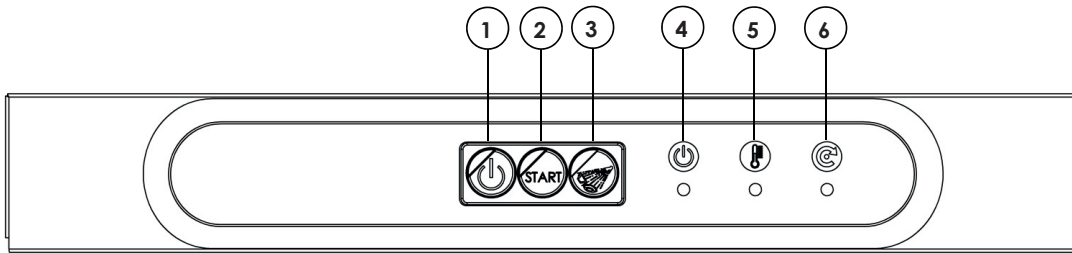
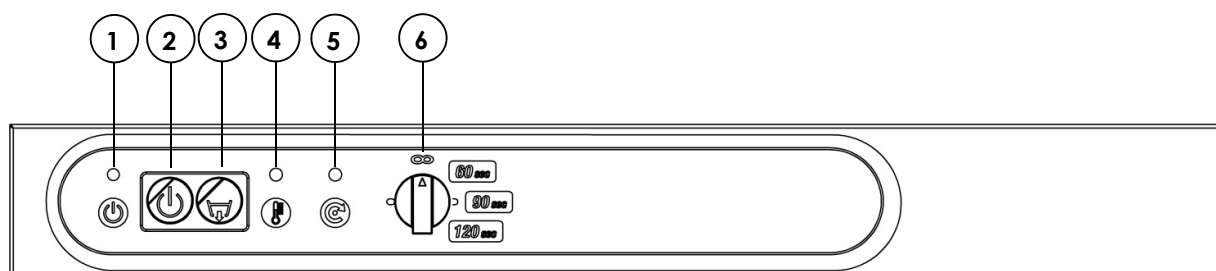

Fig. 14a
Fig. 14c
On fig. 14a, 14b, 14c you can see the control panel of the dishwasher and the reference to each control, according to the model of the dishwasher and the presence or absence of the drain pump.
Front loading dishwasher (ref. fig. 14a or 14b)	Dish washer with lid (ref. fig. 14c)
6. Washing	<p>Open the door, introduce the basket with the dishes (making sure the arrangement of the dishes respects the description contained in para. 3.4 – PART 2), close the door and press the CYCLE START KEY (2) to start the wash cycle: the CYCLE INSERTED LIGHT (6) comes on.</p> <p>The cycle ends when the CYCLE INSERTED LIGHT (6) turns off.</p>	<p>Raise the lid, insert the basket with dishes (making sure the arrangement of the dishes respects the description in para. 3.4 - SECOND PART), lower the lid and press the lid closure handle downwards: the CYCLE INSERTED LIGHT (5) comes on.</p> <p>downwards: the CYCLE INSERTED LIGHT (5) comes on.</p> <p>The washing/rinse cycle starts automatically.</p> <p>automatically.</p> <p>The cycle ends when the CYCLE INSERTED LIGHT (5) turns off.</p>
7. Supplementary rinse	<p>If the dishwasher is set up for manual rinsing activation (fig. 14a) and to perform a further rinse, press the MANUAL RINSING BUTTON (3): an additional 5 sec. rinse will be performed.</p>
1. turn off the dishwasher using the POWER SWITCH (1 figg. 14a, 14b or 2 fig. 14c)